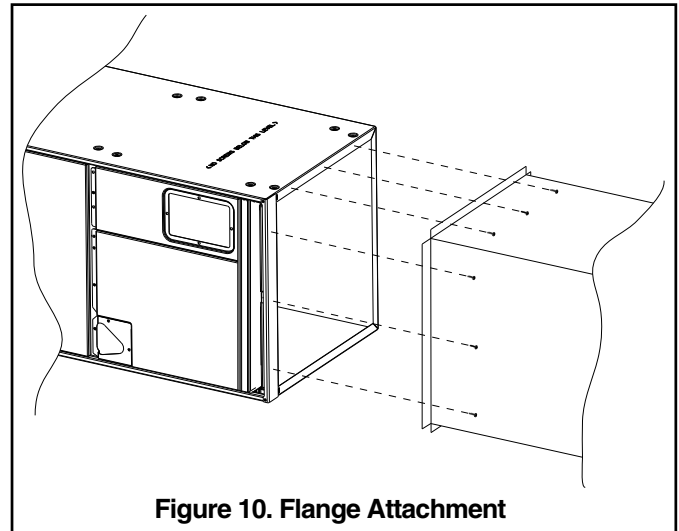

Figure 10. Flange Attachment
8. If a return duct is connected to the air handler, it must be the same dimensions as the return opening shown in Figure 10 on page 6 or the outline drawing on page 17.